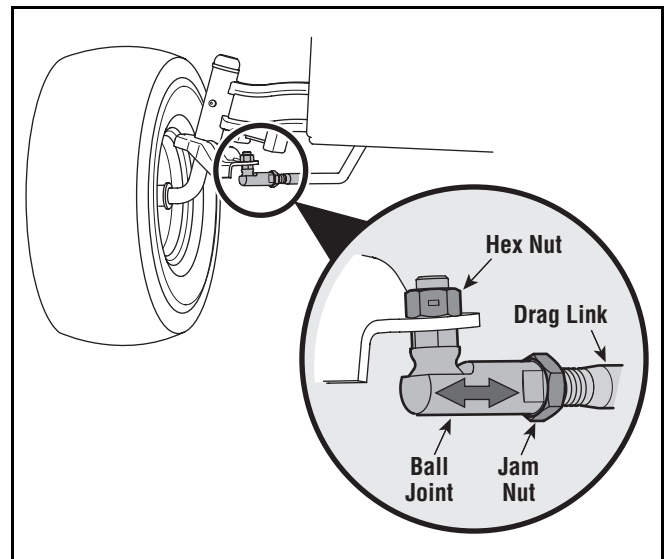

Figure 14
- Loosen the jam nut found on the drag link at the rear of the ball joint. See Figure 14.